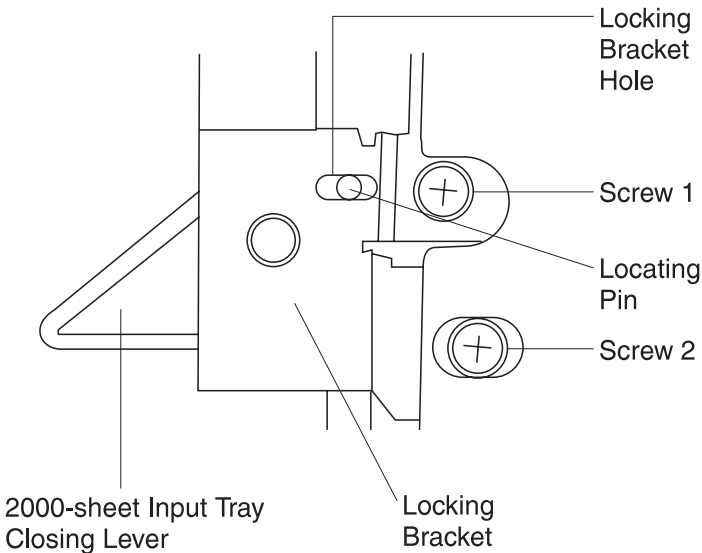

Figure 4-3 Tray 4 Position Adjustment
- 4 Loosen both screws that support the paper tray locking bracket on the right side of the 2000-sheet Input Tray (see figure 4-3).
- 5 Locate the bracket hole and pin at the middle (right side) (see figure 4-3).